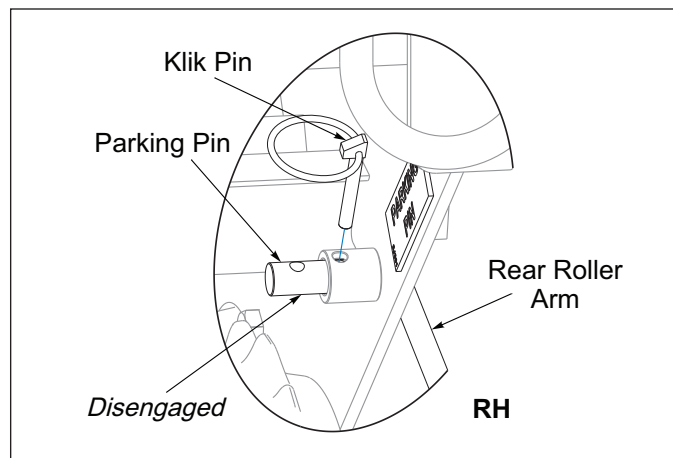

Figure 3-5: Parking Pin Disengaged
5. Disengage both Parking Pins from the back LH and RH sides of the Seeder. This will allow the Rear Roller to float during operation. **See Figure 3-5.**